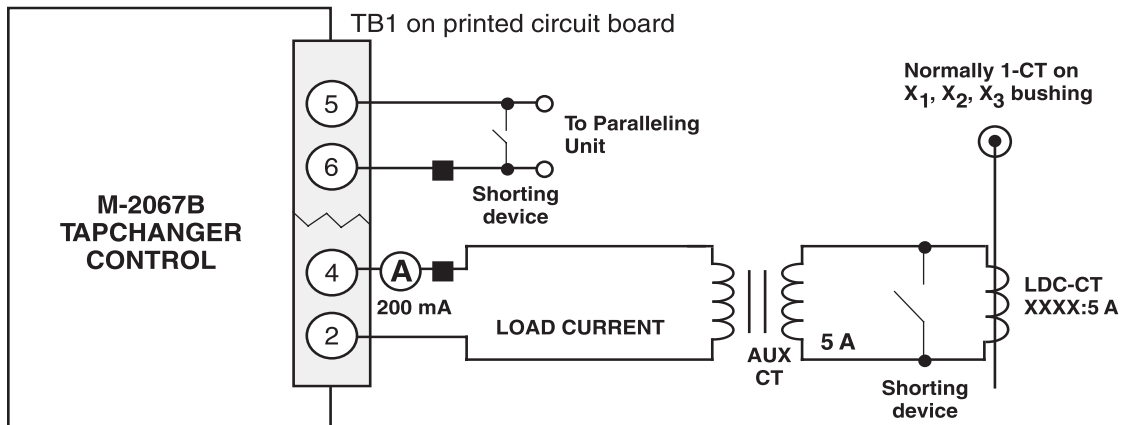

Figure 11 Setup for Current Checkout Procedure
- As shown in Figure 11, temporarily place a shorting device across the LDC-CT secondary to short the line drop compensator circuit, and place another shorting device across TB1-5 and TB1-6 to short the circulating current paralleling input, for the load current check.